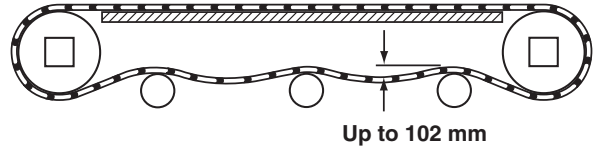

Figure 40
- Check belt sag by measuring from the top of the return (**Figure 40**). Belt sag should not exceed 102 mm. Follow steps 7 – 9 in the “Belt Installation” section on page 13 to remove slack from the belt.